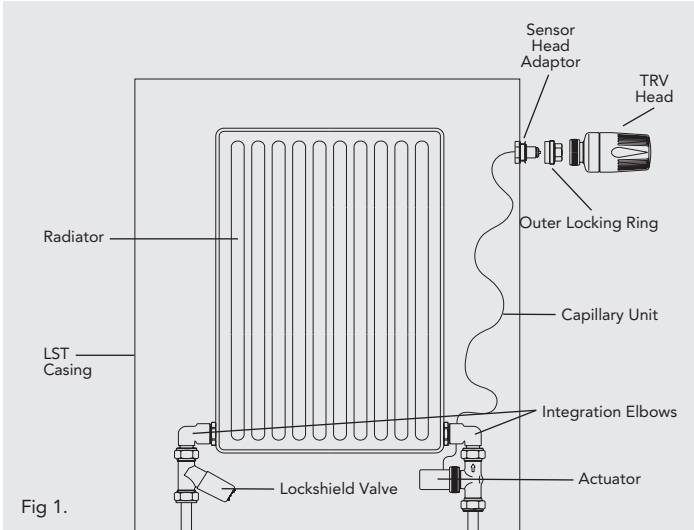

Fig 1.
- The Universal Close Coupled TRV kit is suitable for all types of MYSON LST radiators. See Fig 1.
- Using the supplied integration elbows or straight valves tails (for Vertical models), carry out the installation of the LST radiator in accordance with the fitting instructions, see Fig 1 and 2.